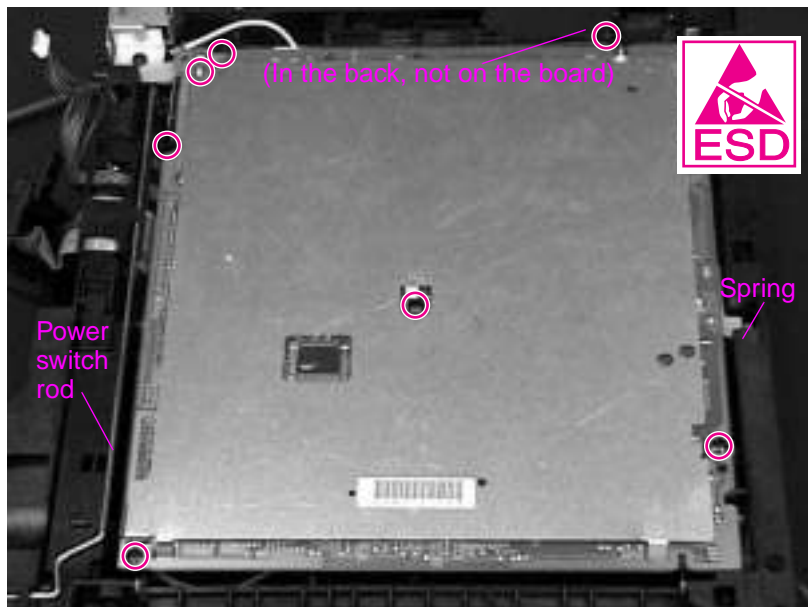

Figure 6-41 Removing the Engine Controller Board
- 3 Remove 7 screws (shown in Figure 6-41 on page 6-44):